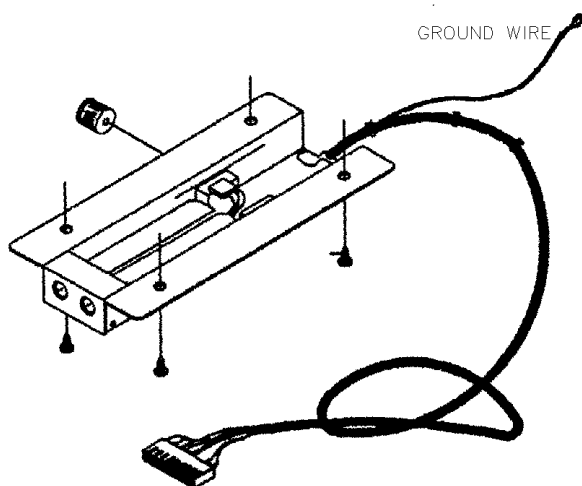

Figure 5-5 HEADSET JACK
2. **VERY IMPORTANT!** Connect the ground wire, located at the rear of the headset, to the rail of the console supporting the Formica using the 8-32x1/2 pan head Phillips screw and 8-32 nut attached to the ground wire. Refer to Figure 5-5.
NOTE: If the system was ordered with TDV-OP409, these steps will have been done at the factory. If the option was ordered after delivery, these steps will have to be performed to install the second volume control knob. Refer to Figure 5-5.